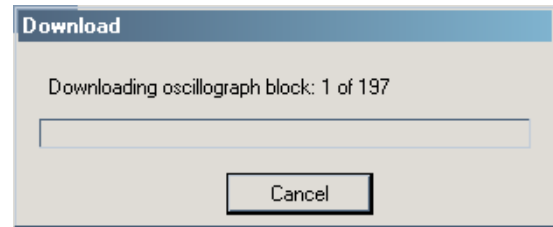

Figure 2-12 Oscillograph Record Download Dialog Screen
4. Input the desired File Name and location, then select **Save**. IPScom will display the Download Status screen (Figure 2-12).